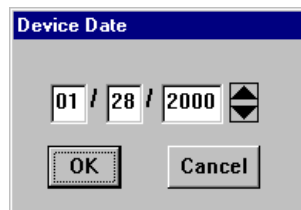

Figure 2-16. Edit Date Window
2. The Device Date change window, Figure 2-16, will appear.